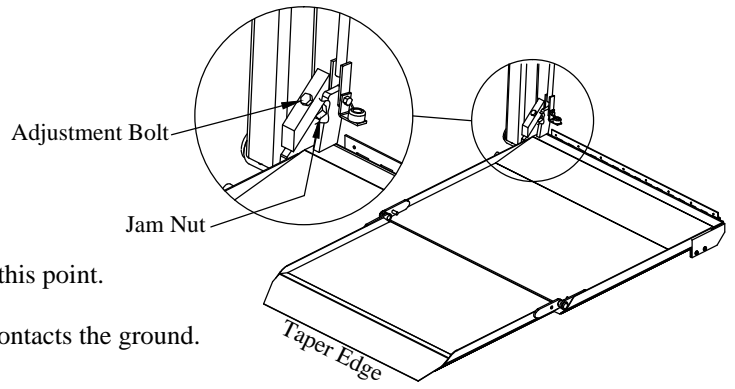

Figure 19: Unfolded 650 platform.
2. **Loosen** the jam nut (Figure 19).